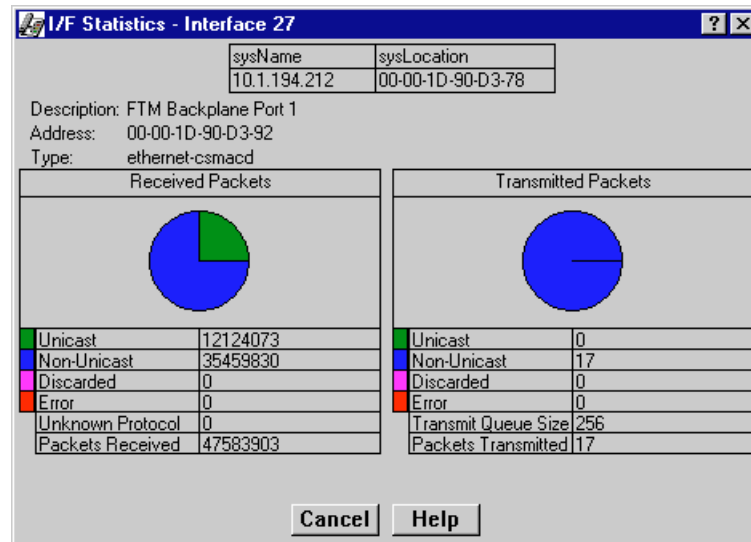

Figure 3-3. The Interface Statistics Window
2. **For RMON statistics** (where available), click to select **Statistics**. The RMON Statistics (Figure 3-1) or MIB-II I/F Statistics (Figure 3-3) window, as appropriate, will appear.
**For MIB-II interface statistics**, click to select **I/F Statistics**. The MIB-II I/F Statistics window (Figure 3-3) will appear.
The interface I/F Statistics window (Figure 3-3) provides MIB-II interface statistical information — including counts for both transmit and receive packets, and error and buffering information — for the front panel interfaces on the MultiSwitch 700 module. Color-coded pie charts in the middle of the window let you graphically view statistics for Unicast, Non-Unicast, Discarded and Error packets.